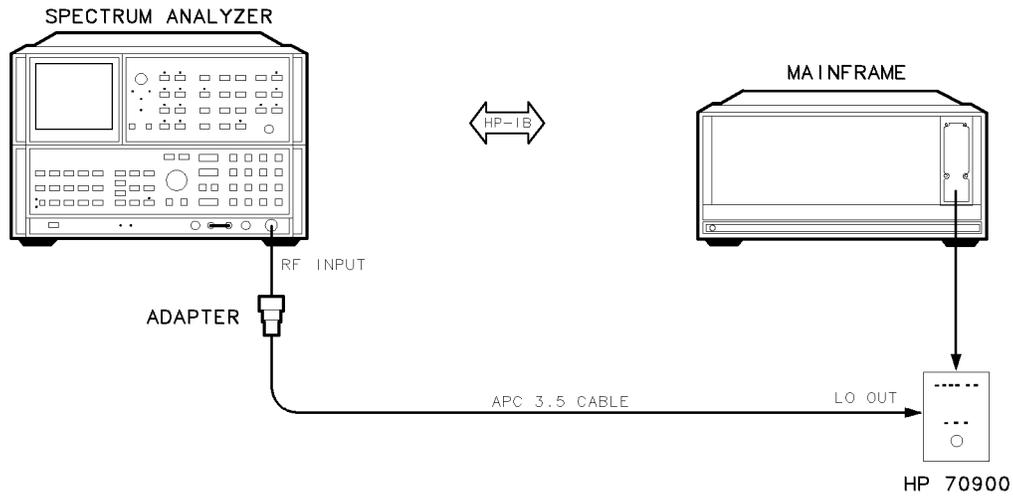

Figure 6-33. Equipment Setup for Adjustment 19. FM Gain
1. Remove the HP 70900B local oscillator source's cover and connect the equipment as illustrated in Figure 6-33.